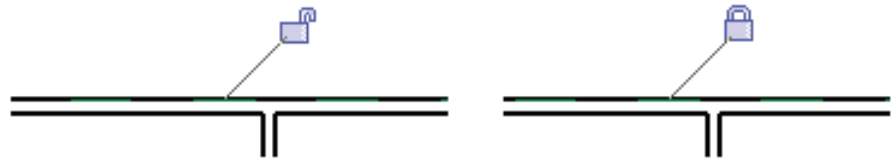

Figure 2–39
- Select the **Multiple Alignment** option to select multiple elements to align with the first element, as shown in Figure 2–40. You can also hold down <Ctrl> to make multiple alignments.